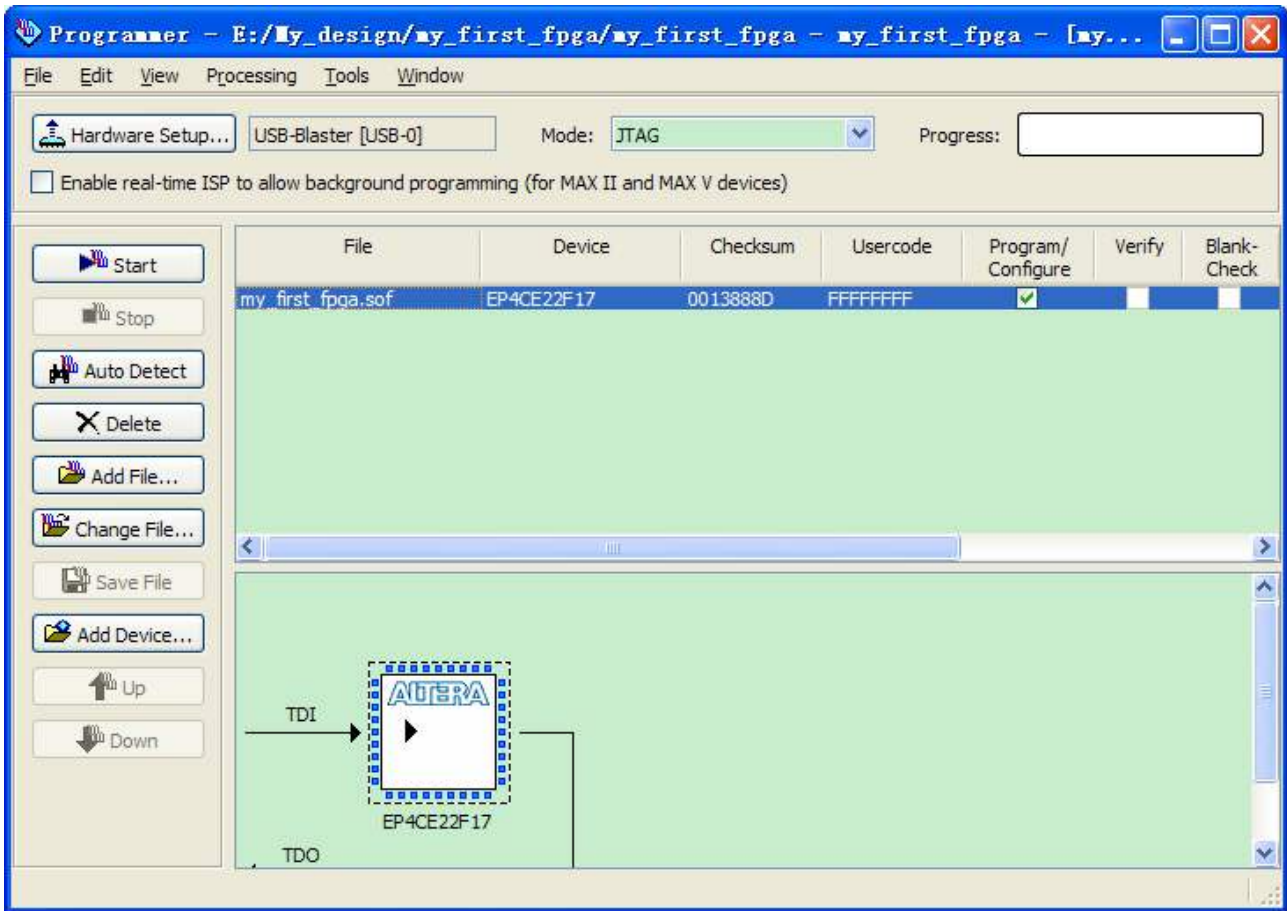

Figure 6-46 Programmer Window
1. Select Tools > Programmer. The Programmer window opens, as shown in **Figure 6-46**.